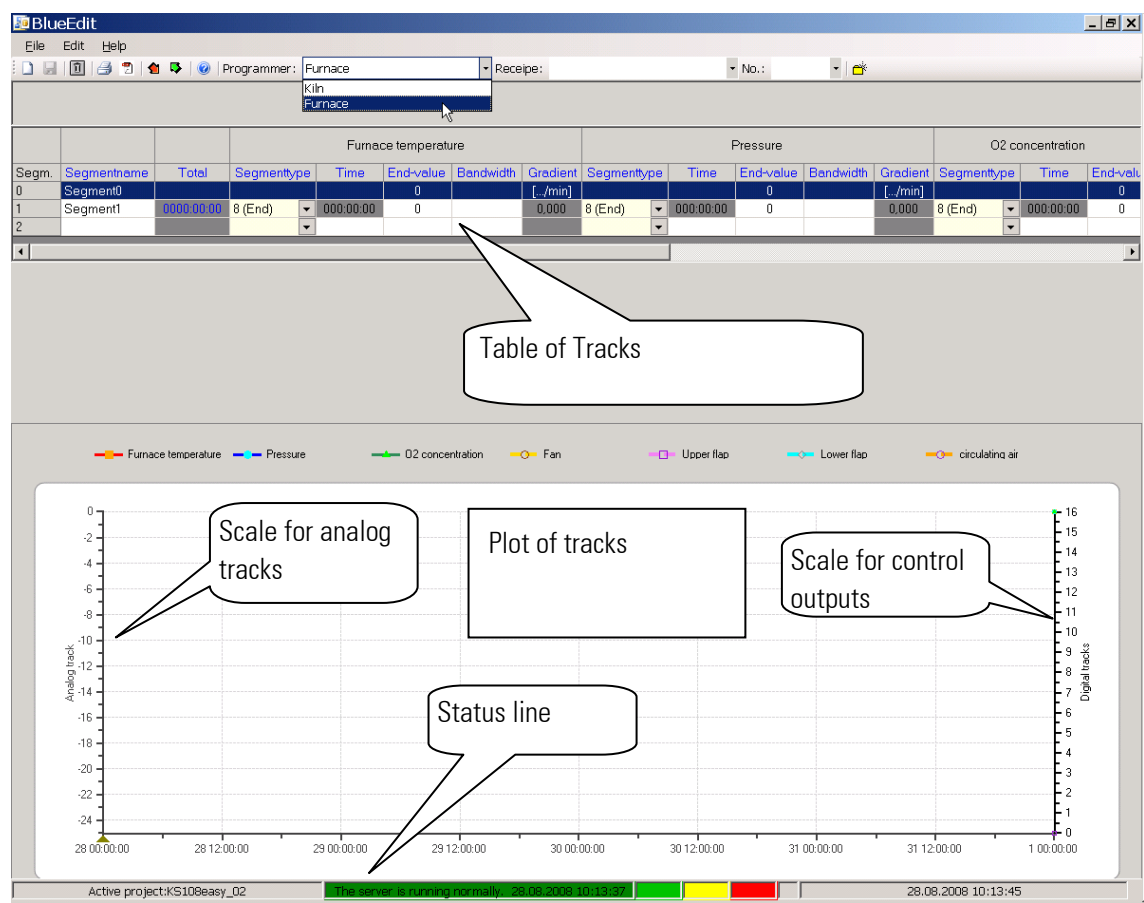

Fig. 29: Start screen and programmer selection
<Start><Software><PMA Tools><BlueEdit><BlueEdit>. A start screen is displayed (Fig. 29: Start screen and programmer selection).
2. Open a new table either via `<File><New>` or via the button (Fig. 29: Start screen and programmer selection).